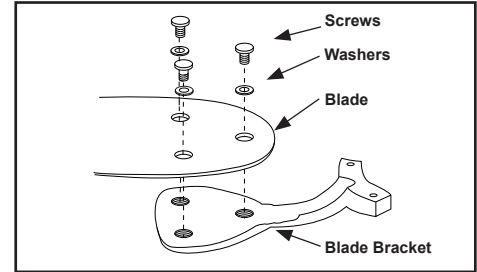

Figure 16
1. Attach blade to blade bracket using the screws provided (Figure 16). Insert a screw into the bracket. Repeat for the two remaining screws.